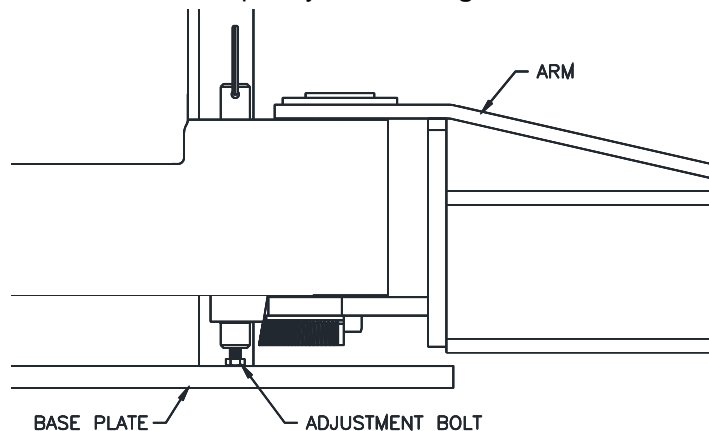

Fig. 21-Bolt Adjustment
- 62) Adjust the hex head bolt in the bottom of the arm restraint shaft so the arm is allowed to rotate freely when lift is completely lowered, **Fig. 21**.